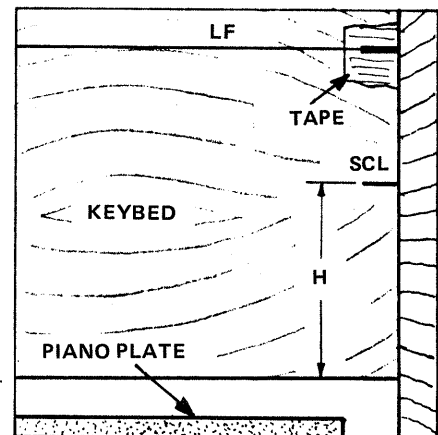

FIGURE 1-43 Measure dimension H, mark and label the Keybed as shown.
- A. Refer to the measurement on Line H under this Step on the Check List. Near the RIGHT side of the piano on the UNDER-SIDE of the Keybed, measure from the REAR of the Keybed a distance equal to the measurement on Line H and mark the Keybed as shown in FIGURE 1-43 (dimension H) and label the mark "SCL". Repeat this procedure at the middle and LEFT side of the piano, then proceed to STEP 1-42.